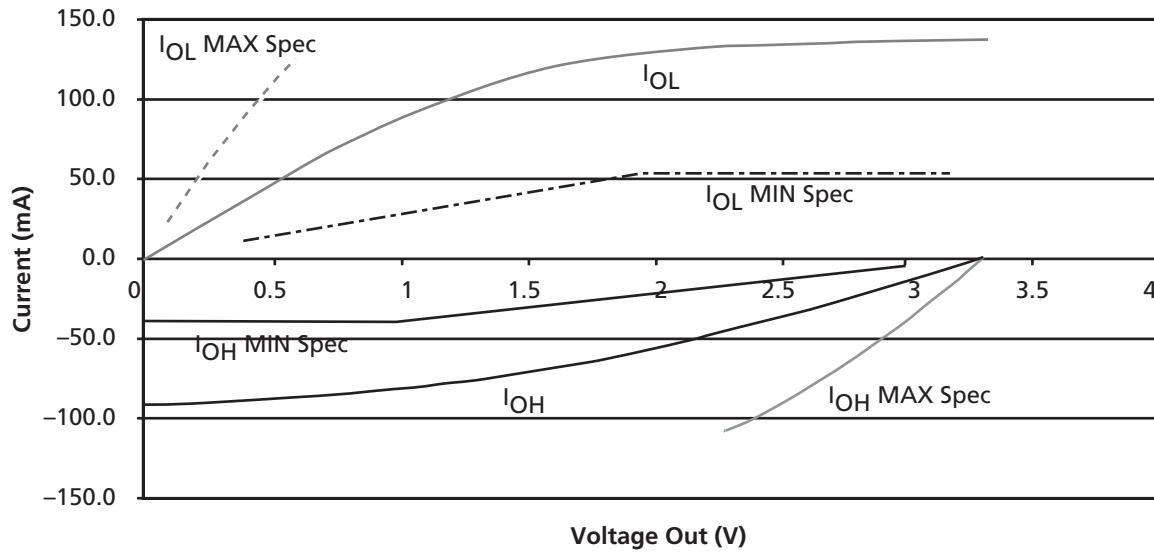

Figure 1-12 • 3.3V PCI V/I Curve for Automotive-Grade SX-A Devices
1. Refer to the  $V/I$  curves in Figure 1-12 on page 1-16. Switching current characteristics for REQ# and GNT# are permitted to be one half of that specified here; i.e., half size output drivers may be used on these signals. This specification does not apply to CLK and RST#, which are system outputs. "Switching Current High" specifications are not relevant to SERR#, INTA#, INTB#, INTC#, and INTD#, which are open drain outputs.
2. Maximum current requirements must be met as drivers pull beyond the last step voltage. Equations defining these maximums (C and D) are provided with the respective diagrams in Figure 1-12 on page 1-16. The equation defined maximum should be met by design. In order to facilitate component testing, a maximum current test point is defined for each side of the output driver.
Figure 1-12 shows the 3.3V PCI V/I curve and the minimum and maximum PCI drive characteristics of the automotive-grade SX-A devices.